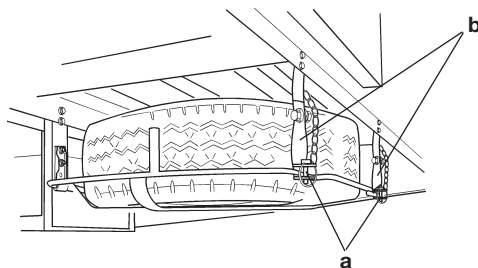

Fig.1
- a) Spare wheel in the stowed position (Fig. 1).